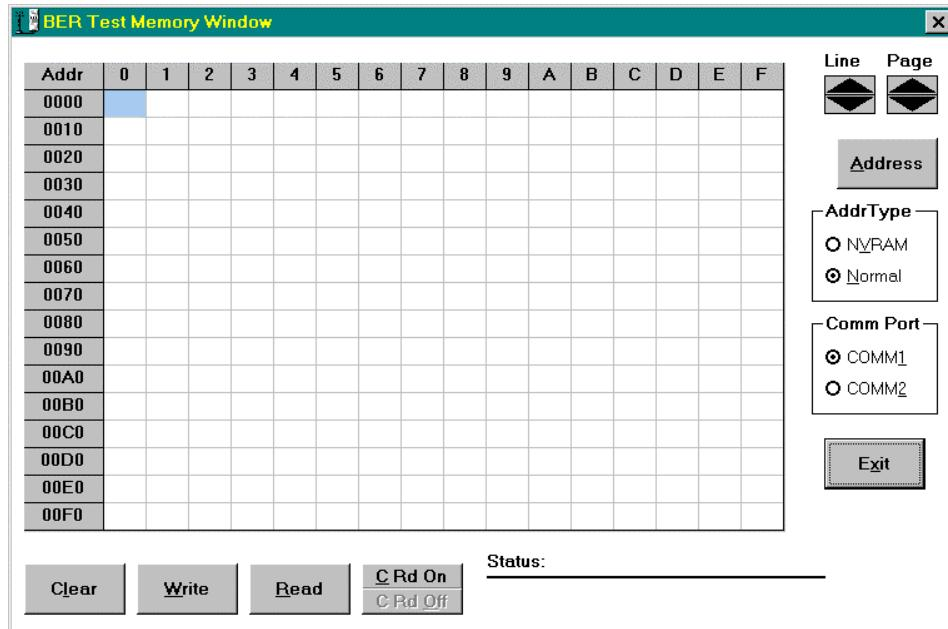

Figure 4. Memory Utility Window
- *Open Memory Window: opens the memory utility window shown in Figure 4.*